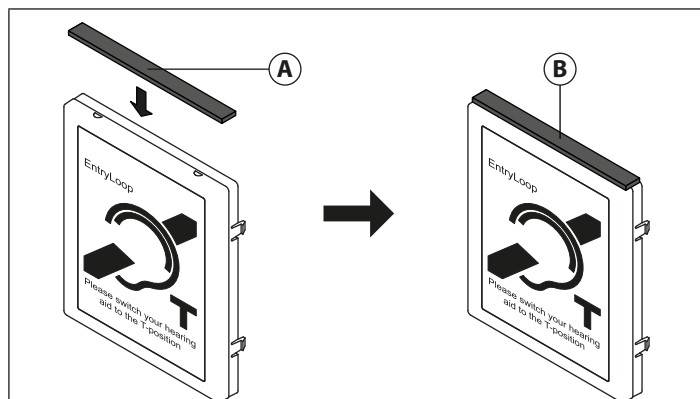

Fig. 6
2. Take the 4000 series adhesive gasket (**Fig.6, (A)**) supplied in the induction loop pack and remove the thin film.
3. Fit the adhesive gasket to the top side of the module (adhesive side down), as shown in **Fig.6, (B)**.